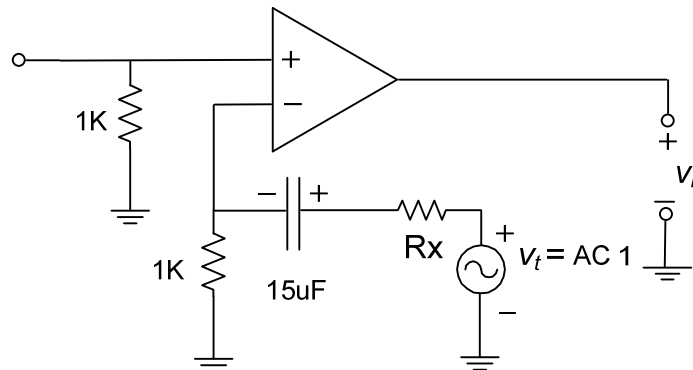

Figure 6.
- (10) Use SPICE to simulate the phase margin of the feedback amplifier. One way to do this is to set all independent sources to zero, break the feedback at a point where loading can be ignored, inject a unit-amplitude AC test signal into the loop and measure the return signal. This is illustrated in Figure 6, where the break point is at the output of the emitter follower. This is a good break point because the output impedance of the emitter follower is low.¹ Such a simulation directly measures loop transmission T as $T = -v_r / v_t$.